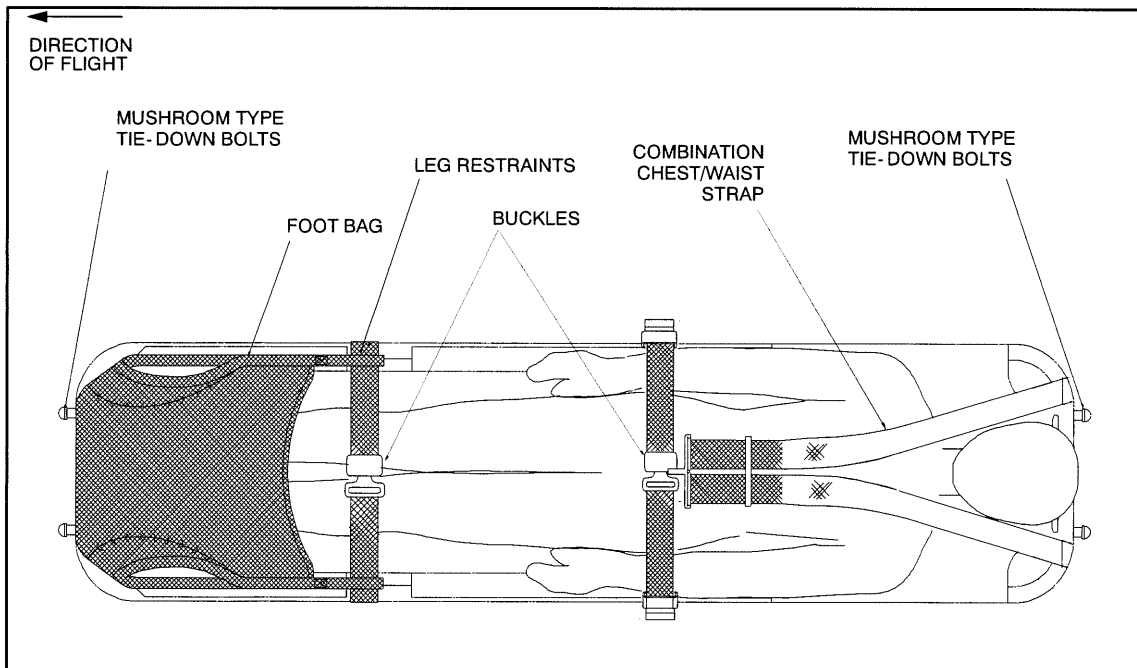

Figure 3 Top view of Left-Hand Litter Kit
1) Preparation of the Cabin. Refer to Figure 3.
2) Installing the Litter (refer to Figure 3)
- Load patient and litter. Insert forward litter mushroom type tie-down bolts into forward bracket assembly mounting holes. Refer to Figure 3.
- Slide aft litter mushroom type tie-down bolts into rear bracket assembly and secure using the locking bar and quick release pin. Refer to Figure 3.
3) Remove the Litter and Provisions (refer to Figure 3)